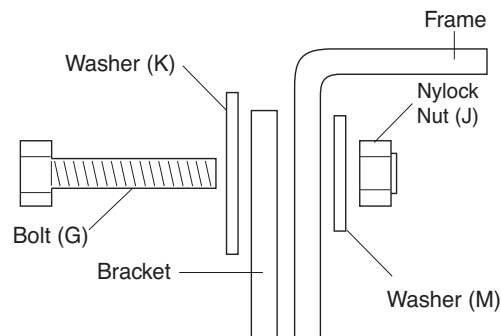

fig. 7
The Passenger Side will use bolt (G), large washer (K) on the outside of the frame, washer (M) on the inside of the frame, and nut (J) to attach the upper bracket to the existing hole on the side of the frame (Figure 7).